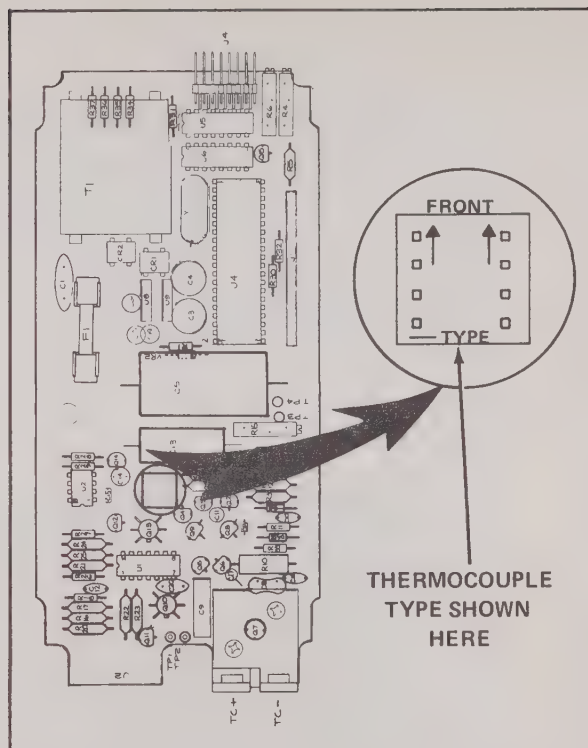

Figure 2-3. TYPE SELECT PCB, LOCATION AND INSTALLATION DETAILS
- f. Unplug and remove the currently installed type select pcb from the position shown in Figure 2-3, and install the new one in its place.